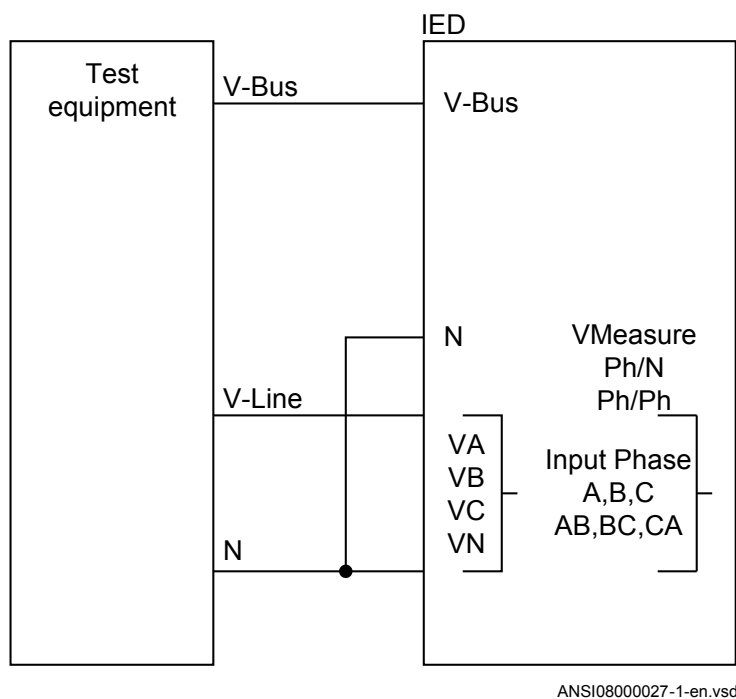

Figure 17: General test connection with three-phase voltage connected to the line side
Figure 17 shows the general test connection principle, which can be used during testing. This description describes the test of the version intended for one bay.
1. Use the same basic test connection as in figure 17.